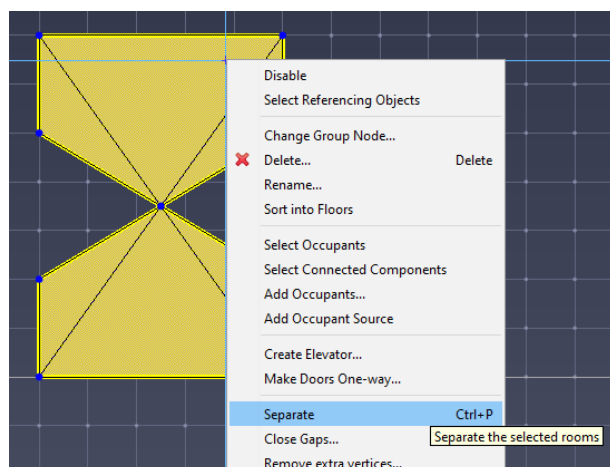

Figure 26. Single room shared point
2. Select **Separate** from either the **Model** menu or the right-click menu (Figure 26).